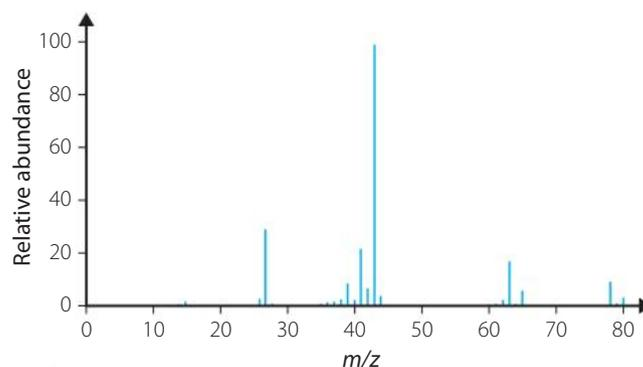

FIGURE 15.32 Mass spectrum of an unknown compound
- Examine the mass spectrum (Figure 15.32) of the compound. What is the molecular formula for the compound?